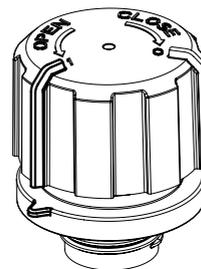

Fig.3
- 4) Breather closure. After fitting the cover (see point 3), turn it following the CLOSE arrow (clockwise) until the first click. In this position the cover is locked by means of the teeth fitted in the relative stop housing of the knurling: this is a guarantee against accidentally unscrewing. In this position the index on the cover marked with 1 is in line with the index on the flange of the threaded connector (Fig. 3).
- 6) To reach breather closure (index on the cover marked with 1 in line with the index on the threaded connector) to sealing closure (index on the cover marked with 0 in line with the index on the threaded connector) just turn the cover following the OPEN arrow (anticlockwise) until the click (Fig. 3).